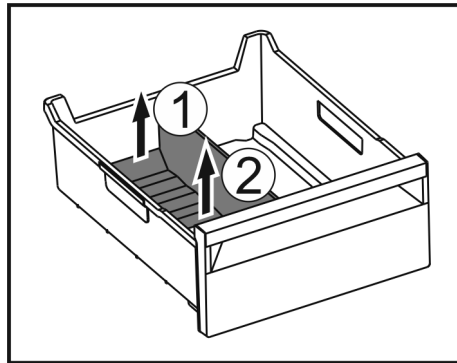

Fig. 232
- ▶ Lift the rear part of the ice compartment divider. Fig. 232 (1)
- ▶ Remove the ice compartment divider upwards. Fig. 232 (2)